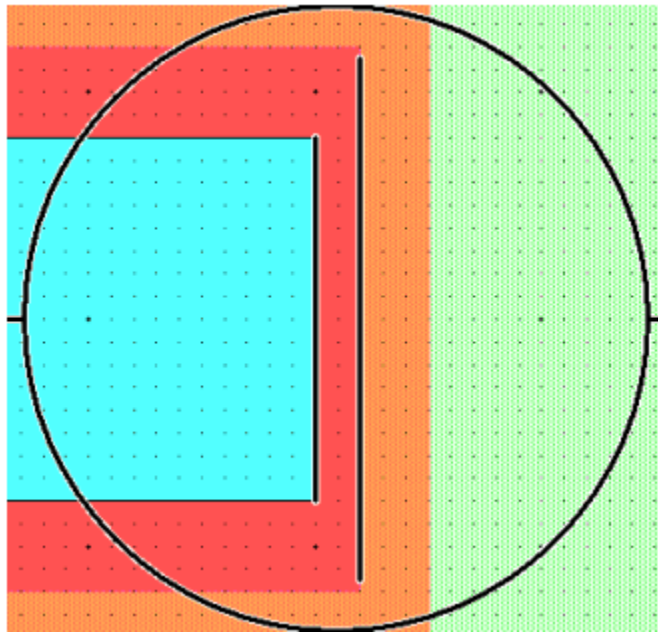

Figure 65: Locating errors
- Rule A: the anchors need to be enclosed by poly1 by more than 4 ums (Figure 65).